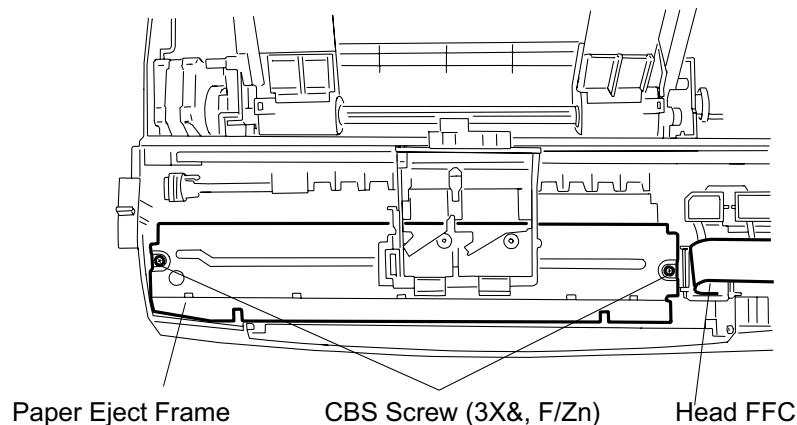

Figure 3-13. Screws Securing the Paper Eject Frame
4. Remove the printhead FFCs from the sub holder, and remove the sub holder. Then remove 2 screws (CBS, 3x6, F/Zn) securing the paper eject frame. (See Figure 3-13.)